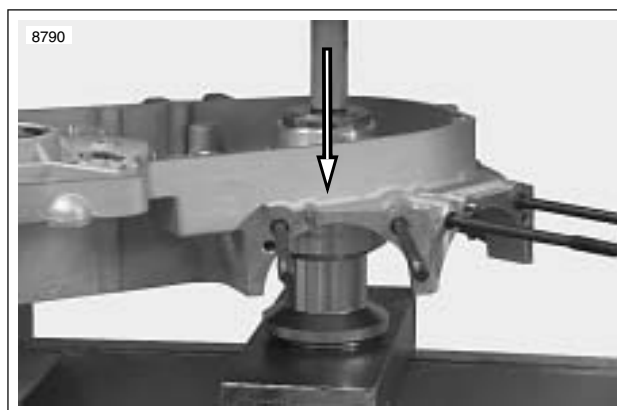

Figure 3-141. Direction of Bearing Removal From Left Crankcase
8. See Figure 3-141. Using CRANKCASE BEARING REMOVER/INSTALLER with ADAPTER (Part No. B-45655, HD-42720-2 and HD-46663) press sprocket shaft bearing out of the left crankcase half.